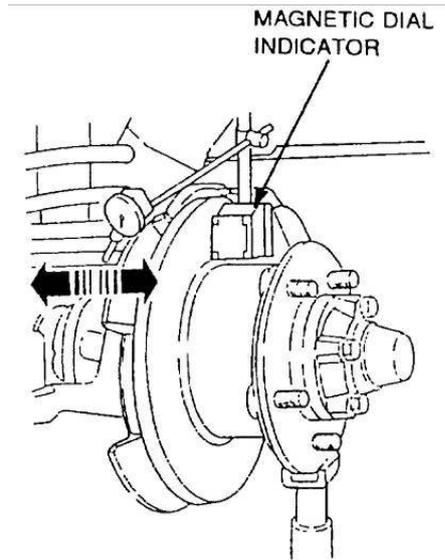

Figure 280 Measuring the Bush Clearance
- When the rotating resistance is correct, place a magnetic dial indicator on the outer face of the brake disc adjacent to the outer edge (Figure 280).